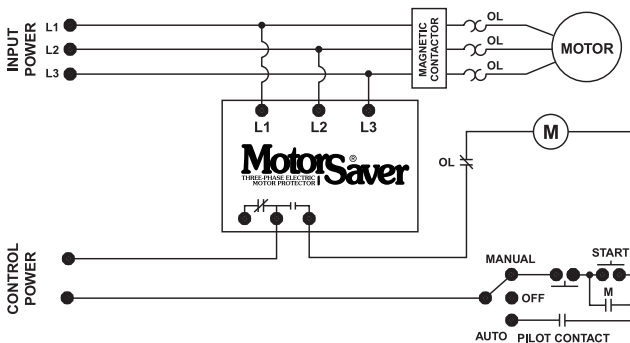

Figure No.1: Typical Motor Control Wiring Diagram
2. Connect the three lines of the motor's three-phase power supply to L1, L2, and L3 on the MotorSaver[®] (see Figure No. 1).
3. Connect the output relay to the circuitry to be controlled (see Figure No. 1 and Figure No. 2).